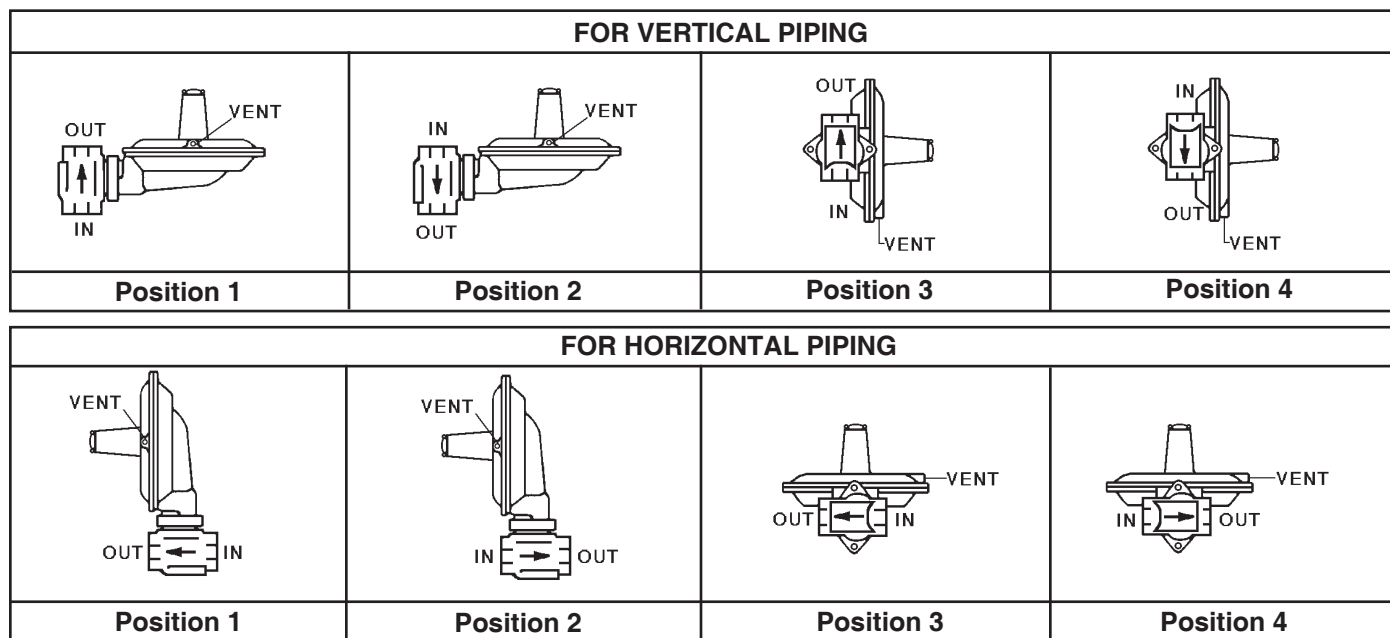

Figure 2
- Refer to Figure 2. Regulator may be rotated around the pipe axis 360°, and may be installed in a horizontal or vertical pipeline. Four orientation/arrangement assembly positions are standard. Orient to prevent the spring chamber vent hole from collecting rainwater or debris. Reorient actuator around the stem axis 360° if necessary.